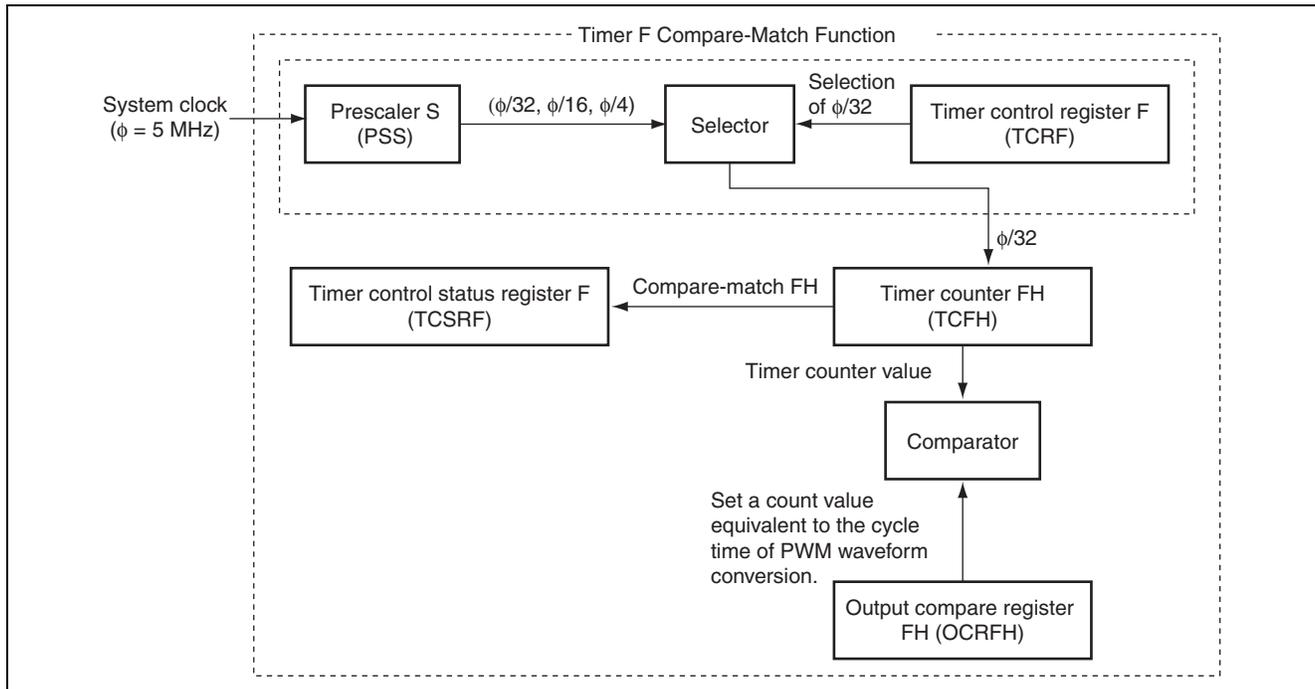

Figure 3.4 Block Diagram of Timer F Compare-match Function
A. Figure 3.4 shows the block diagram of the timer F compare-match function.